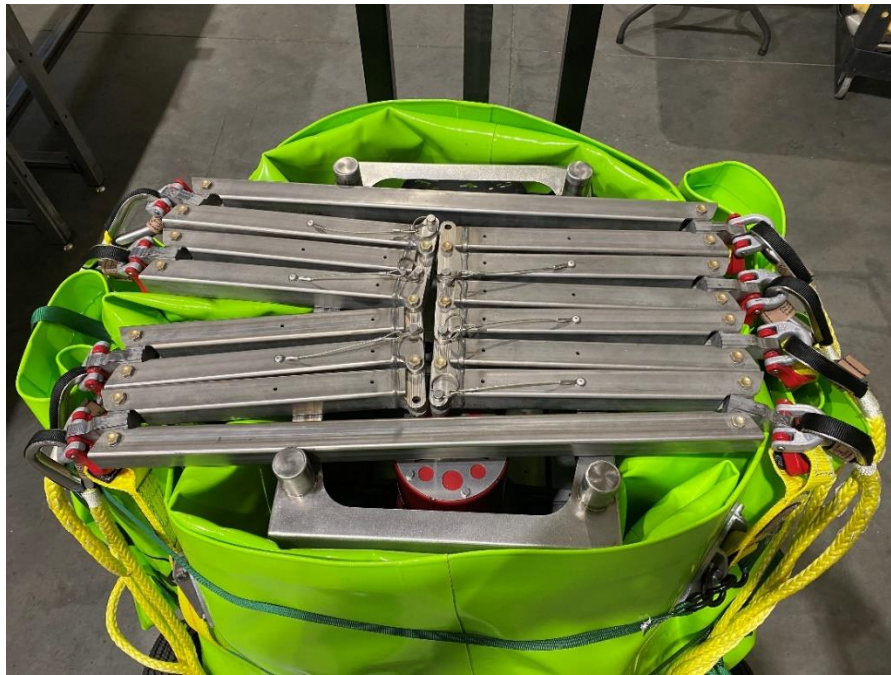

Figure 27: Collapsed Inlet Frame
5. With the solid arms opposite of each other, the frame will collapse down, as shown in Figure 27.